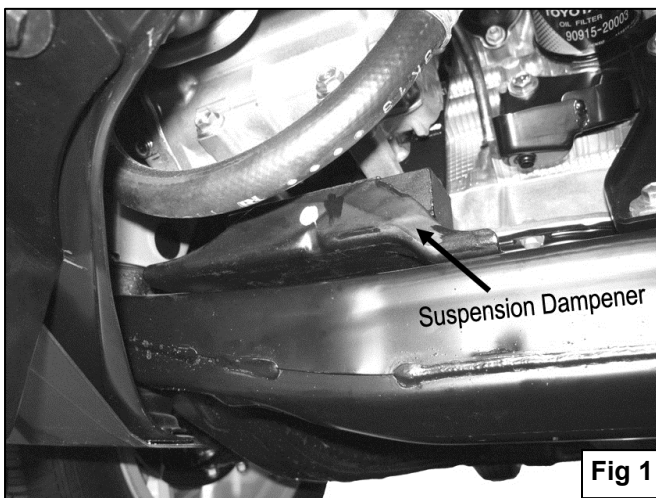

Fig 1
3. On top of the cross member bar there is a factory suspension dampener obstructing one of the mounting locations for the Support Brackets. **NOTE:** The suspension dampener is located on the driver side for gas models (**Figure 2**) and on the passenger side for hybrid models (**Figure 1**). Use a 10mm socket to remove the two factory bolts holding the suspension dampener from the top of cross member.